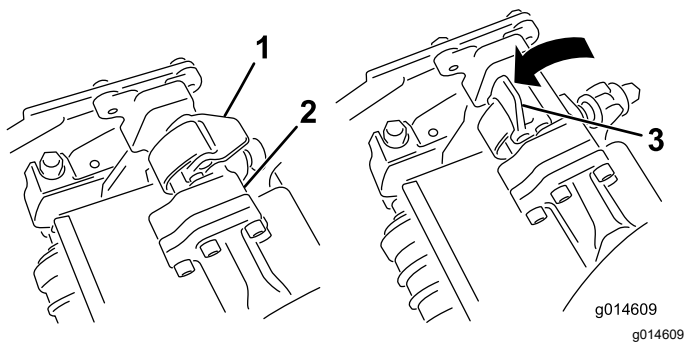
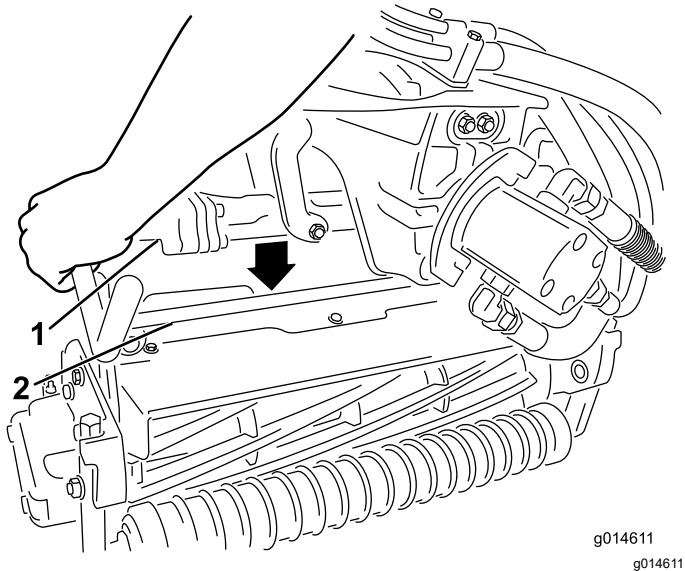

Figure 55
Figure 56
3. With the latches on the suspension-arm bar pointing up (i.e., open) (Figure 55), push the suspension arm down so that the bar fits over the bar across the top of the cutting unit (Figure 56).
4. Close the latches down and around the cutting-unit bar and lock them in place (Figure 55).
4. Open the latches on the suspension-arm bar of the cutting unit you are removing (Figure 55).